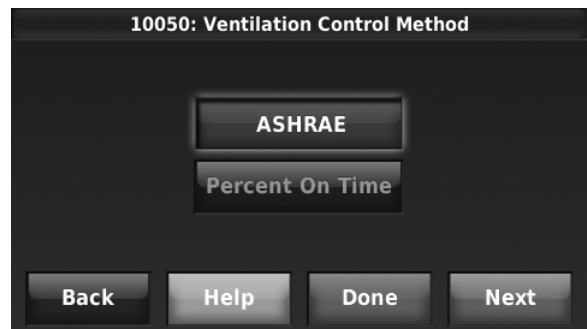

Fig. 146.
3. Select the Ventilation Control Method. See “Ventilation Control Methods (ISU 10050)” on page 74 for more information. See Fig. 146.